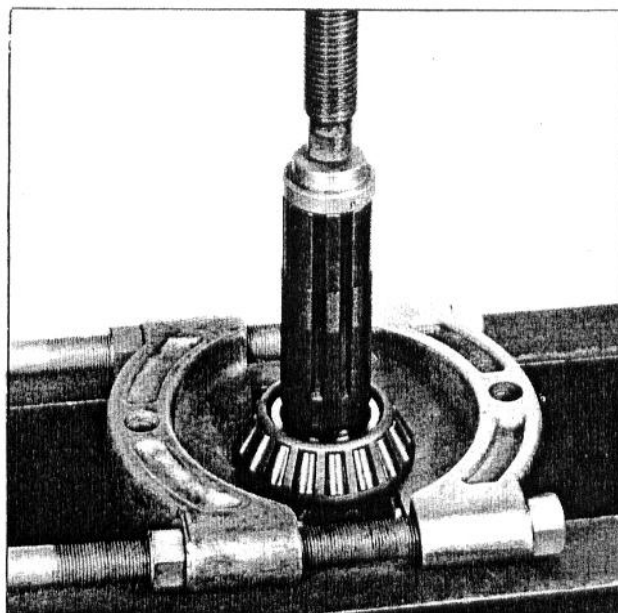

Fig. 58 - Removing Rear Pinion Bearing Cone
6. Remove the rear pinion bearing cone, as shown in Fig. 58.